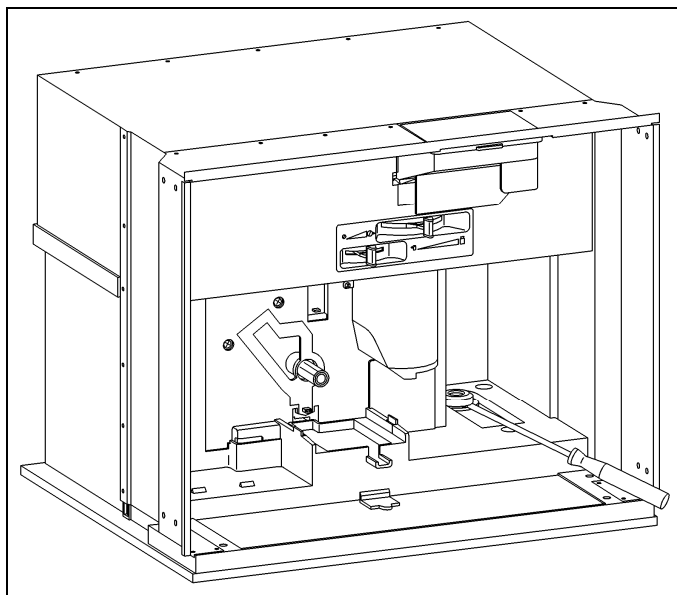

Figure 5-42: Levering Off the Seal Cap
3. Lever off the seal cap (Figure 5-42).